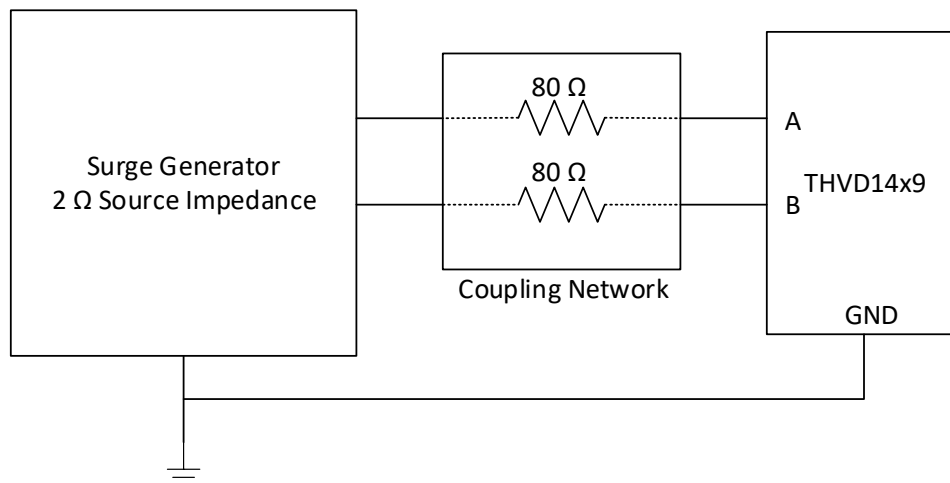
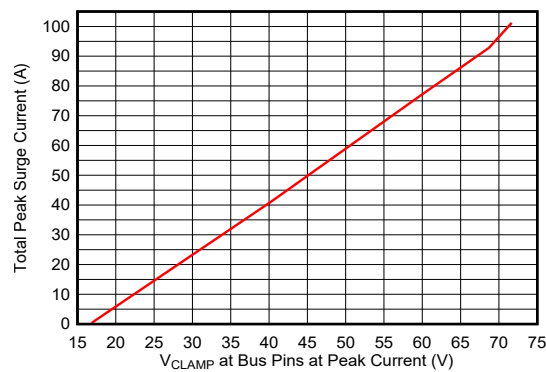

Figure 8-6. THVD14x9(V) Surge Test Setup
Figure 8-8. Clamping voltage at bus pins vs total surge current from the surge generator
Figure 8-6 shows the test setup used to validate THVD14x9 surge performance according to the IEC 61000-4-5 1.2/50- μs surge pulse.
THVD14x9(V) product family is robust to ± 4 -kV surge transients without the need for any external components. The transient current and voltage waveforms resulting from a +4-kV surge test as described in Figure 8-6 are shown in Figure 8-7. The bus pin voltage is clamped by the integrated surge protection diodes such that the internal circuitry is not damaged during the surge event. The clamping voltage at the bus pins for versus the total current from the surge generator is shown in Figure 8-8.